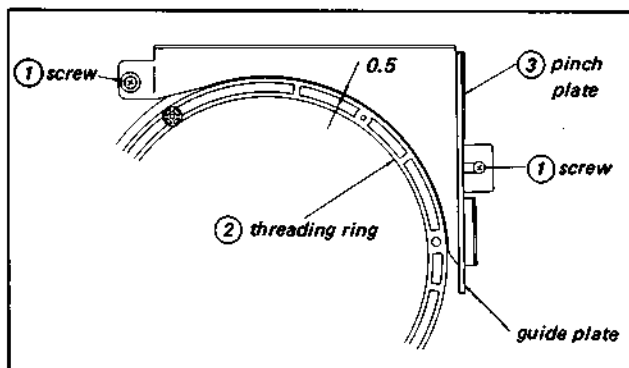

Fig. 3-16. Pinch control plate adjustment
- 2) As shown in Fig. 3-16, loosen the two screws ①, and adjust so that there is a space of 0.5 mm all around between the threading ring ② and the pinch control plate ③, then tighten the screws ①.